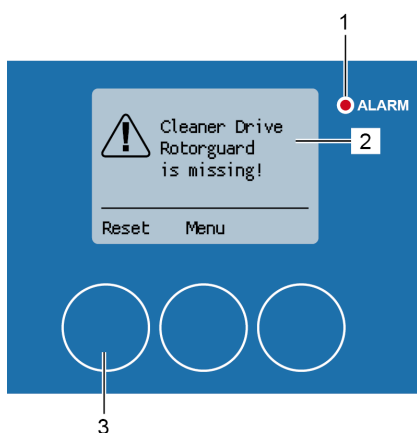

Fig. 191: Clock sensor alarm
The alarm message "Cleaner Drive Rotorguard is missing!" (Fig. 191/2) occurs during the cleaning process if there is a problem with the clock sensor. The red alarm LED (Fig. 191/1) lights up.
2. Reset the alarm message with [Reset] (Fig. 191/3).